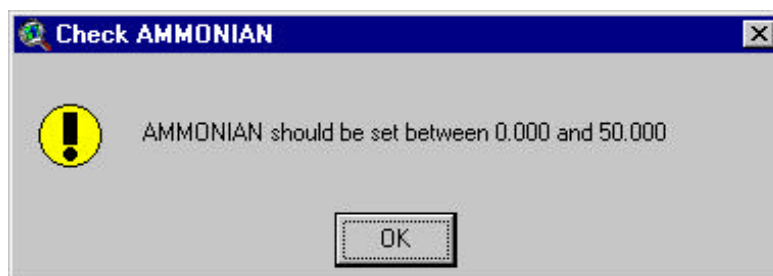

Figure 12.91
3. Edit data: Activate a parameter text box by clicking on it. Type the desired value. You can move to the next parameter text box by pressing the **Tab** key. If the value of the parameter is out of range a message box like the one in Figure 12.91 pops up.